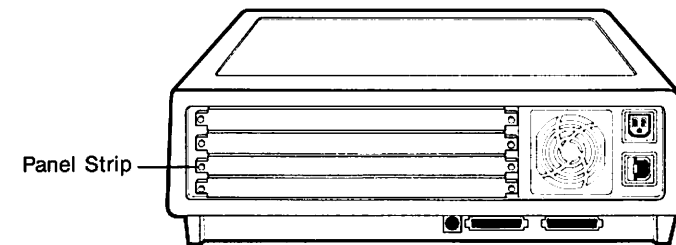

Figure 3. Tandy 2000 Rear View
4. Position the Tandy 2000 main unit so that the back of the unit is readily accessible and free of obstructions as illustrated in Figure 3.